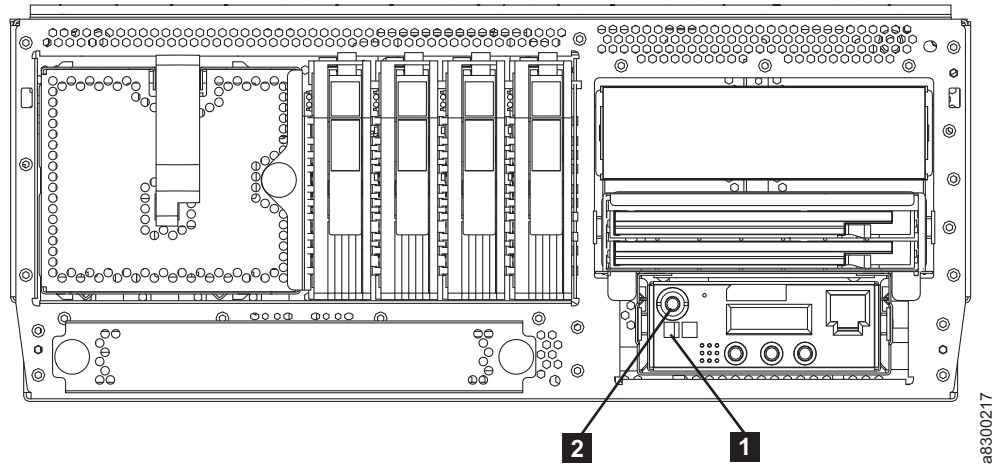

Figure 16: Rear view of TS1120 Tape Controller
2. The tape controller completes a self-test when power is applied to the frame or rack. When the self-test completes, the tape controller's power LED (1 in Figure 16 on page 31) flashes, indicating that the tape controller is in standby mode.
3. When the tape controller's power LED (1 in Figure 16 on page 31) flashes, press the **Power ON/OFF** button (2 in Figure 16 on page 31).
2. Press and hold down **Power ON/OFF** (2 in Figure 16 on page 31) for approximately 5 seconds. You see the number in the upper right corner of the operator panel decrement 4 - 1 to no number displayed. At that point, release **Power ON/OFF**.
4. The TS1120 Tape Controller is powered down to standby mode when the green LED (1 in Figure 16 on page 31) on the operator panel flashes.